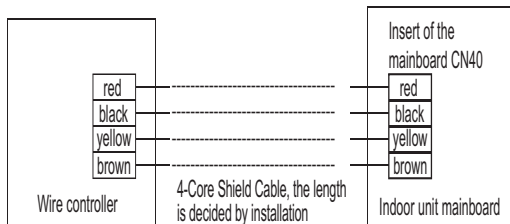

Fig. 2 — Wiring Connection Diagram
13. Connect the wire from the main controller board (see Fig. 2).